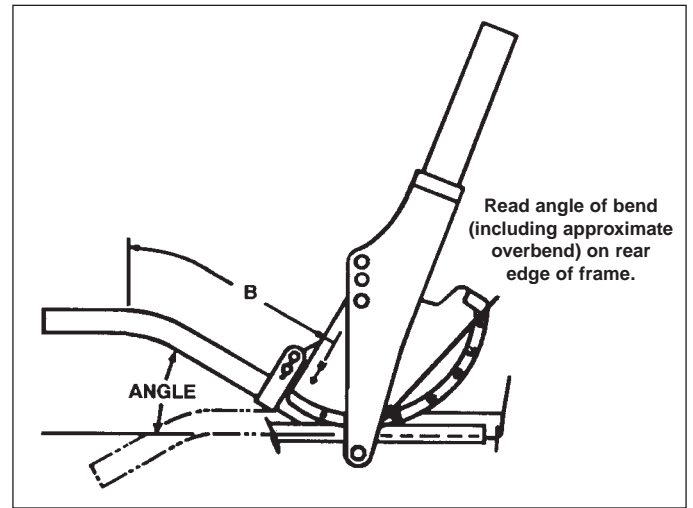

Figure 4
5. Place thinwall conduit in bender, aligning first bend mark (M) with arrow on bending shoe. Proceed to bend, reading angle on rear edge of frame. (See Figure 4.)